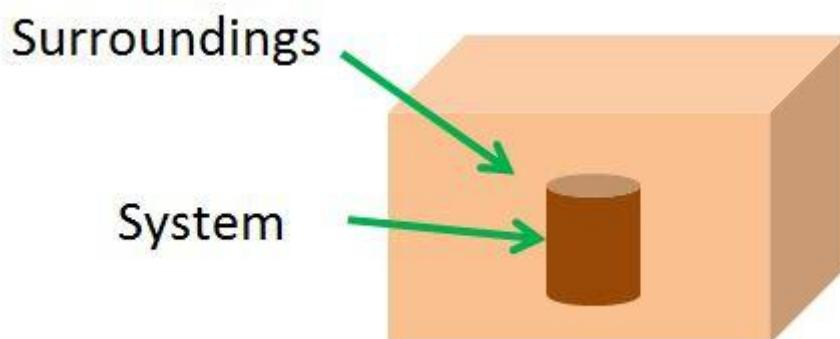

Figure 14 A thermodynamic system
**Thermodynamics** is the study of heat flows and how they can be put to work. **Engines** work by converting heat energy into movement energy, which can then do useful jobs of work for us. We need to look at a couple of key words. A **system** is the object of interest whose behaviour we are monitoring in relation to its **surroundings**. A flask containing gas is a system; the water bath in which the flask is placed is its surroundings. The diagram below helps to show the idea (Figure 14):